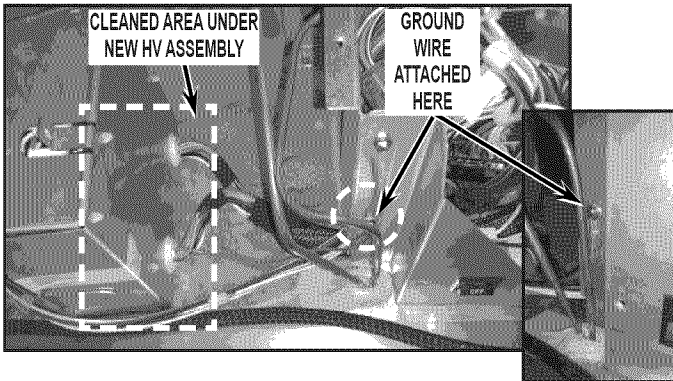

FIGURE 22
27. Attach switch plate removed in step 22 and attach the ground wire from new HV assembly to switch plate lower screw hole. See *Figure 22*.
28. Attach 3 pieces of double-sided tape to the bottom of the new HV assembly and stick it to a cleaned off area in the approximate location shown in *Figure 22*.